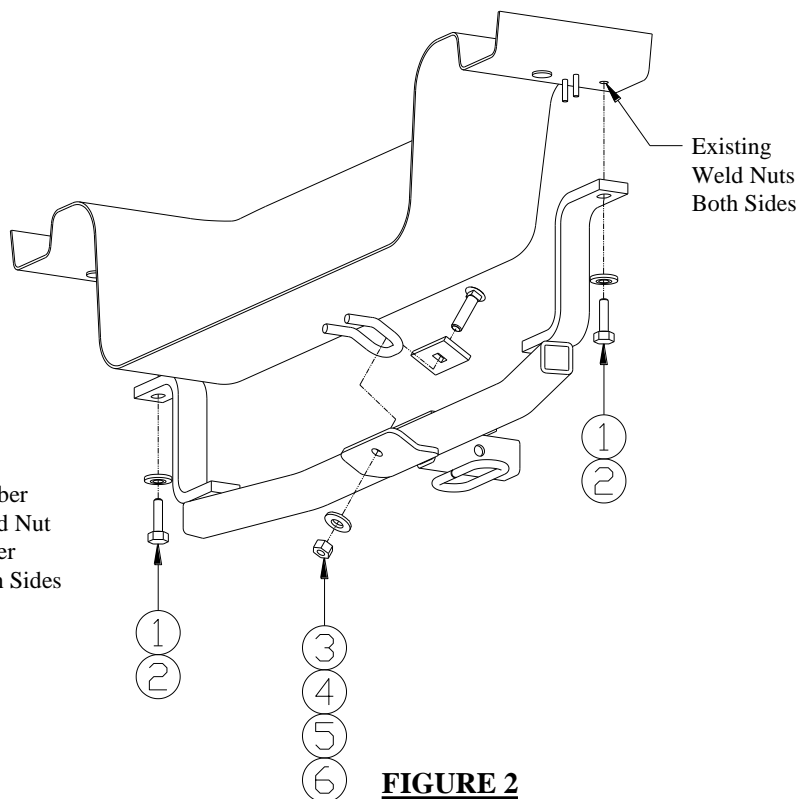

FIGURE 2
3. Raise hitch into position as shown in Figure 2.